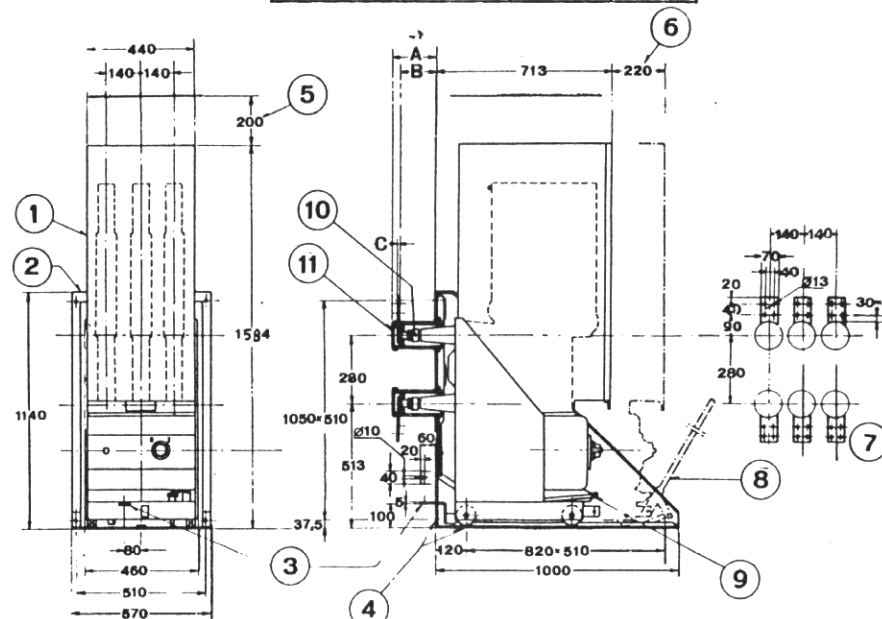

Fig 6 - Circuit-breaker type D6, 6 kV, 1250 - 2000 A, draw-out construction
Fix the stationary portion of the breaker to floor and to wall by means of screws through the 8 holes (see fig 6). Check that clamp (16)(fig 2) couples the earthing knife situated on the stationary portion of the breaker, then connect the earthing cable.